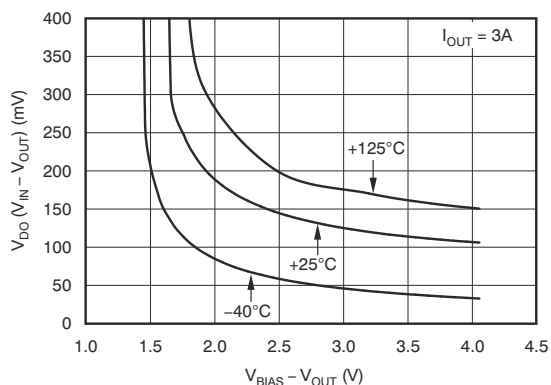

Figure 5-11. V_{IN} Dropout Voltage vs V_{IN} Dropout Voltage vs I_{OUT} and Temperature (T_J)
- (1) Adjustable devices tested at 0.8 V; resistor tolerance is not taken into account.
- (2) Dropout is defined as the voltage from V_{IN} to V_{OUT} when V_{OUT} is 3% below nominal.
- (3) 3.25 V is a test condition of this device and can be adjusted by referring to Figure 5-11.